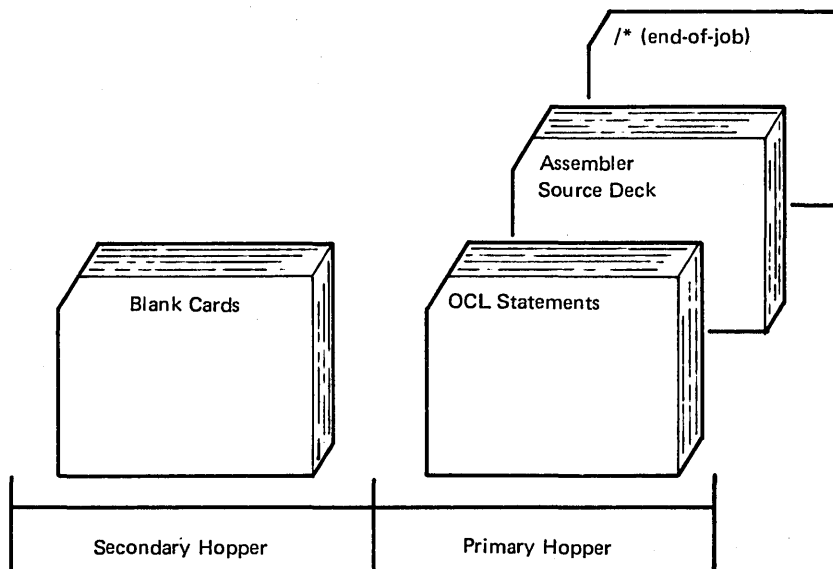

Figure 37. Input for Basic Assembler Program
3. Place OCL statements and assembler source deck (Figure 37) in the primary hopper of the MFCU.